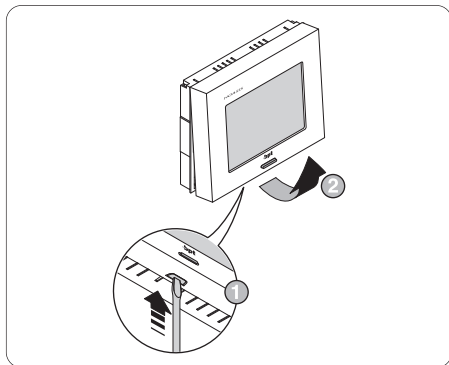

Fig. 28
- Open the unit by using a screwdriver in the slot (fig. 28);